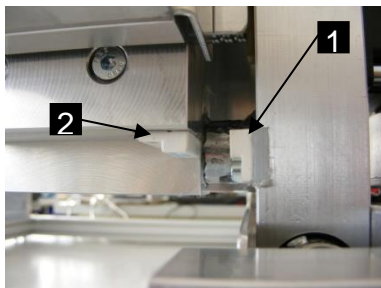

Fig. 9b: Y-Carriage
- The reference switch (Fig. 9b /1) responds to the magnetic field of the incoming homing magnet (Fig. 9b /2). If the magnet is close enough the reed sensor of the switch turns on.